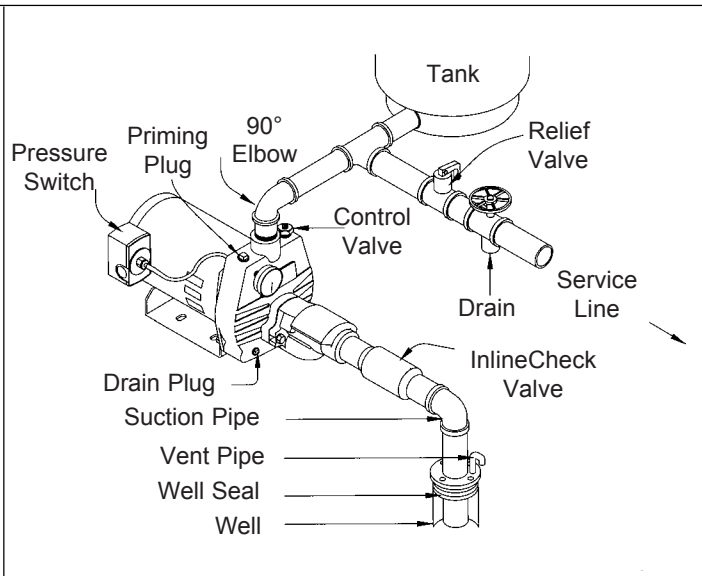

Fig. 4b SHALLOW WELL (WITH INLINE CHECK VALVE)
- b) **Suction & Pressure Pipe:** It is recommended that only new clean 1-1/4" pipe or hose be used. If the pump is installed any appreciable distance away from the source of water, the suction pipe should be increased to 1-1/2". Horizontal lengths of pipe must gradually slope upwards from the source of water to the pump to avoid air pockets in the line. Thread compound should be used on all pipe joints and connections should be thoroughly tightened. **A foot valve must be installed** and its operation should be checked since a leak will prevent proper operation of the system. Make sure the foot valve is located so that it will be submerged at all times. If the well cannot supply as much water as the pump can draw, install a tailpipe up to 30 feet long between the injector and the foot valve. As the well draws down under heavy demand, the pump's capacity will be reduced, and the level will not go below the foot valve, which would cause the pump to lose its prime. If a sandpoint or driven well is used, install a check valve next to the pump suction instead of the foot valve (Fig. 4b). **All installations must have a foot valve or a check valve in the suction pipe.**